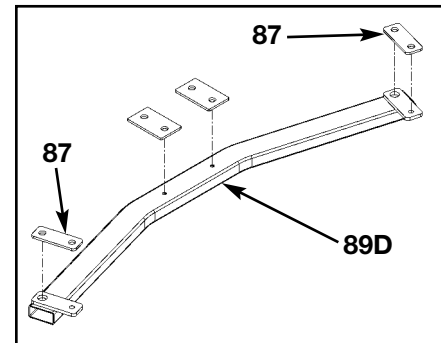

Figure 2
- B.** Lay one of the stabilizers (#89D) so that the bottom side is facing up. See Figure 2.
- C.** Remove the backing from two of the foot pads and install foot pads 2.00 x 5.25 (#87) as shown in Figure 2.
- C.** While one person is holding the FT 360 in a tipped position, remove the backing from two of the foot pads and install foot pads 3.00 x 5.00 (#88) onto frame as shown in Figure 2 and then carefully lower FT 360.